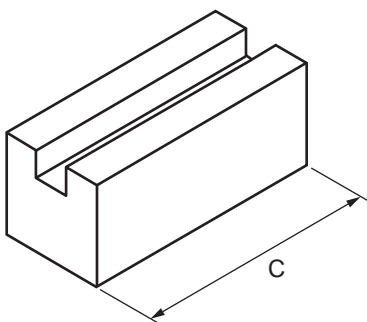

Figure 6c
- iii. Draw a circle around the part of the measuring tool that is best suited to measuring feature C, shown in Figure 6c below. 1 mark